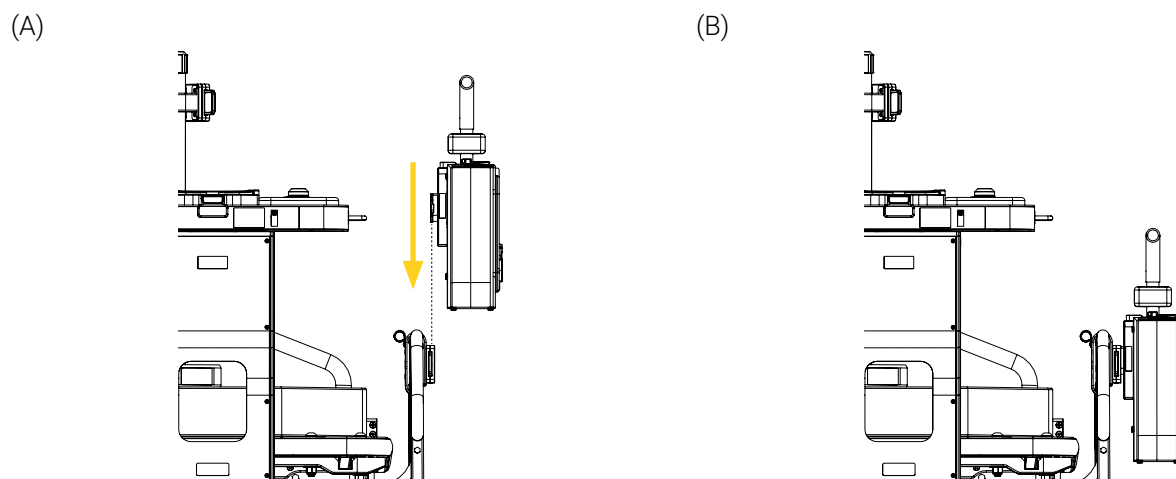

Figure 12: Installing the medical device in the mounting system
1. Align and insert the mounting clip located behind the mounting bracket of the medical device in the mounting system vertically until it locks (Figure 12). Refer to « Securing the BP26–FQ » section on page 18 and/or the Flex Sequor User Manual if needed.